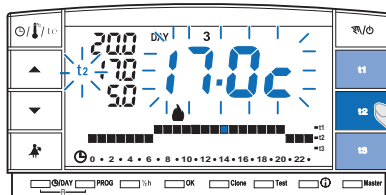

fig. 20
- Press the key (**t1**, **t2** or **t3**) corresponding to the temperature setting to be changed: the corresponding temperature indicator (**t1**, **t2** or **t3**) and the large central digits blink (the large central blinking digits will indicate the set temperature that has been set) (fig. 20).